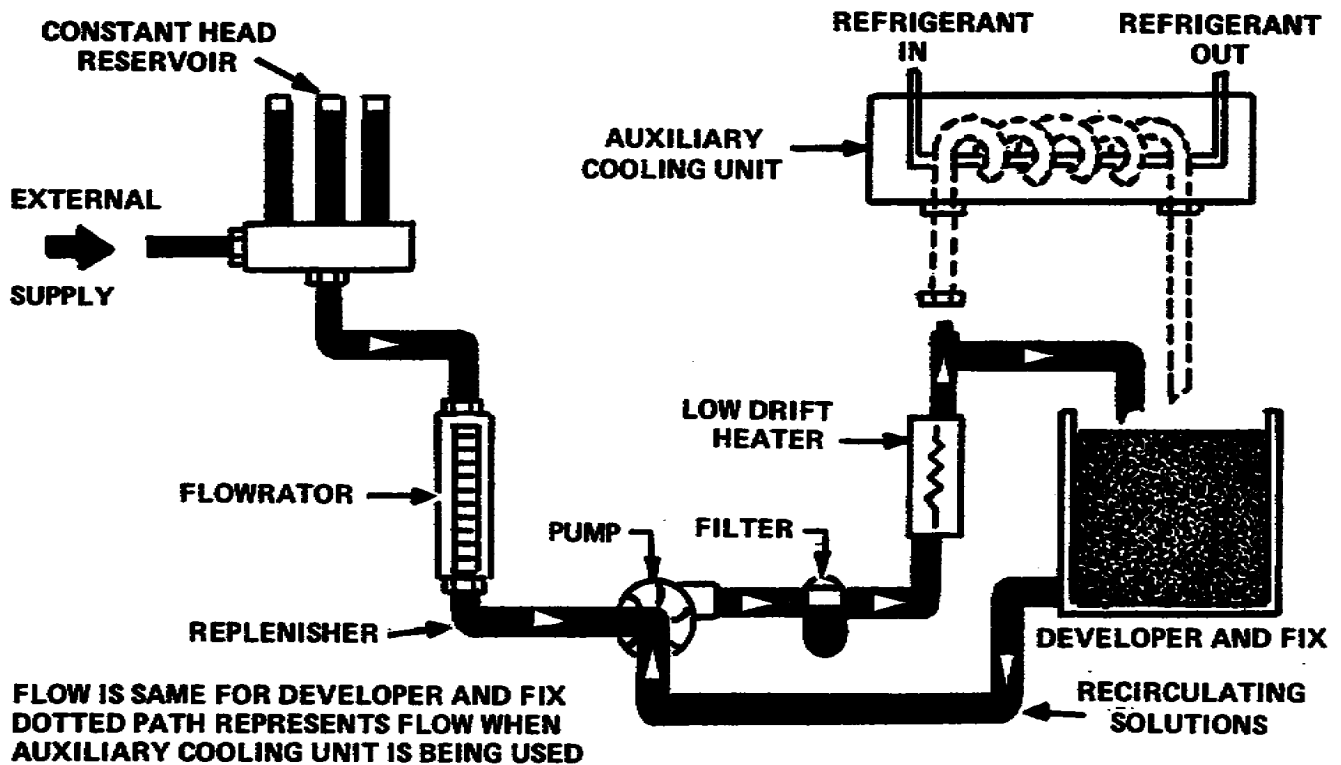

Figure 1-9. Typical recirculation system
b. Recirculation system (fig 1-9) performs four important functions in processing machines.
- (1) Filters the solutions.
- (2) Controls the temperature of the solutions.
- (3) Provides a logical place to add replenisher to the solutions.
- (4) Provides a certain amount of agitation to the solutions.